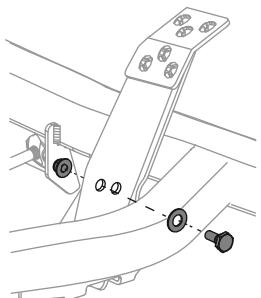

Figure 37
- Remove the hex bolt, washer and hex nut near the center of the pedal assembly. See Figure 37.
- Reinstall the hardware previously removed and torque the nut to 28-35 ft-lbs (38-47 N-m). See Figure 37.